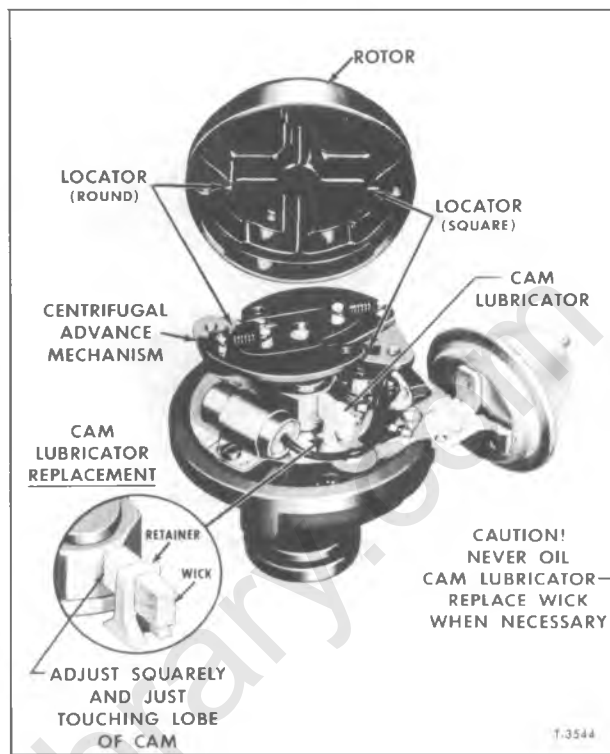

Figure 9—View of Distributor
5. If distributor is equipped with a cam lubricator wick (fig. 9), use long nose pliers to squeeze the assembly together at base and lift out. Remove all old lubricant from cam surface.